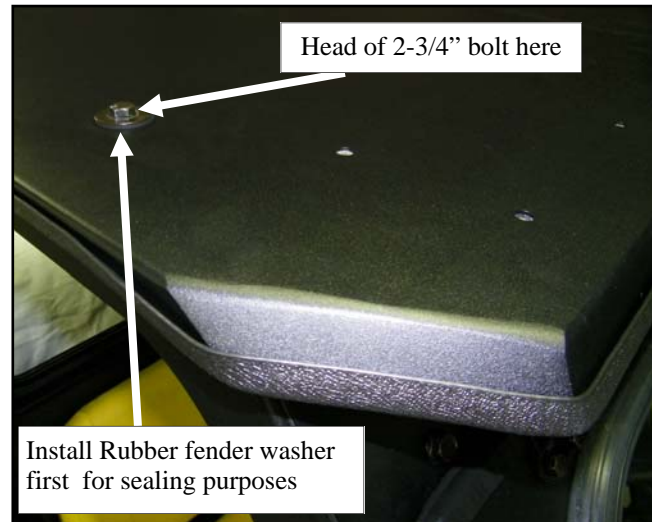

Fig. 5.2 (view of passenger's side front corner)
5.2 With assistance, put the roof into position on the vehicle. Fasten through the OPS (Operator Protective Structure) on each side at the locations shown in figure 5.2. Fasten using the hardware listed below. **Install finger tight at this time.**